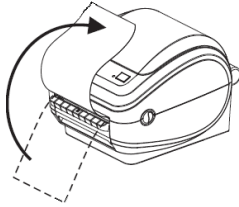

Figure 3.7.6 Lift the label backing.
- 1) Press the feed button. Once several inches of media have exited the printer, lift the sheet (Figure 3.7.6).